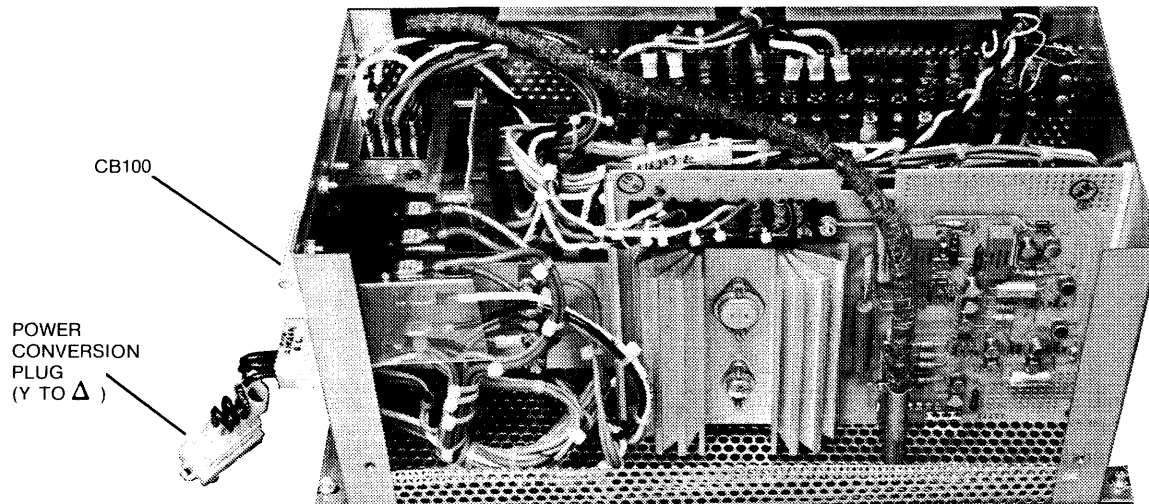

FIGURE 2-8. FRONT VIEW, PDU COVER OFF
- ✓ 5. Check terminal boards in the power distribution unit, located at the front of the drive (see Figure 2-8). To access into the PDU, its cover must be removed by removing two screws and lifting out; the cover's rear edge has a plastic lip that slides under a bracket in the housing.
By proper connection of the power conversion plug (Figure 2-8) to the PDU, the drive's power configuration can be made compatible with the power source at the user site. Read the instructions etched onto the plug itself, and insert the plug appropriately.
1. Set CB100 on the PDU to ON (see Figure 2-8).